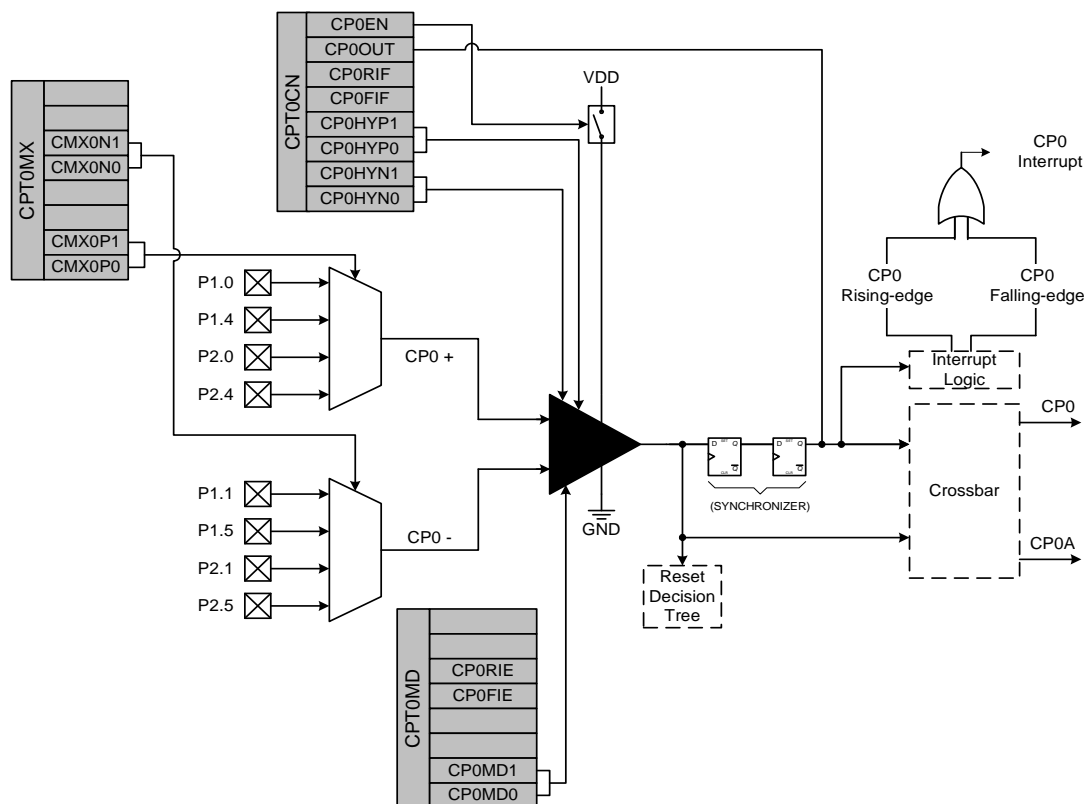

Figure 7.1. Comparator0 Functional Block Diagram
C8051F31x devices include two on-chip programmable voltage comparators: Comparator0 is shown in Figure 7.1; Comparator1 is shown in Figure 7.2. The two comparators operate identically with the following exceptions: (1) Their input selections differ as shown in Figure 7.1 and Figure 7.2; (2) Comparator0 can be used as a reset source.